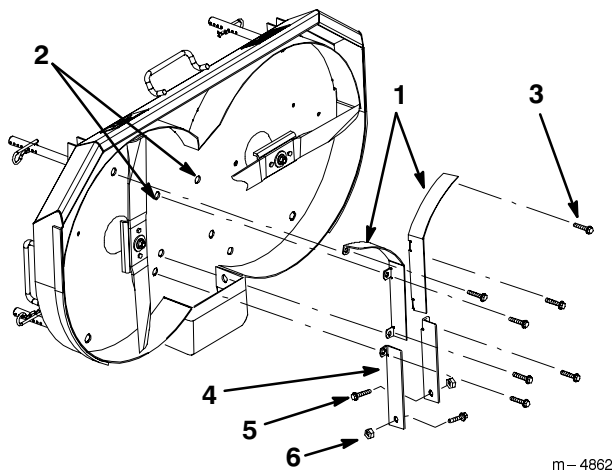

Figure 40
2. Remove cap screws, left and right bagger baffles locknuts, carriage bolts, and left and right discharge baffles from the mower (Fig. 40).
IMPORTANT: All bagging baffles and discharge must be removed when mulching (Fig. 40).
3. Position the left and right front bagger baffles inside the mower and secure with capscrews into the retainer nuts (Fig. 40).
4. Position the left and right rear discharge baffles inside the mower. Secure with cap screws through the bottom and carriage bolts inside of mower rear discharge. Secure carriage bolts with locknuts (Fig. 40).